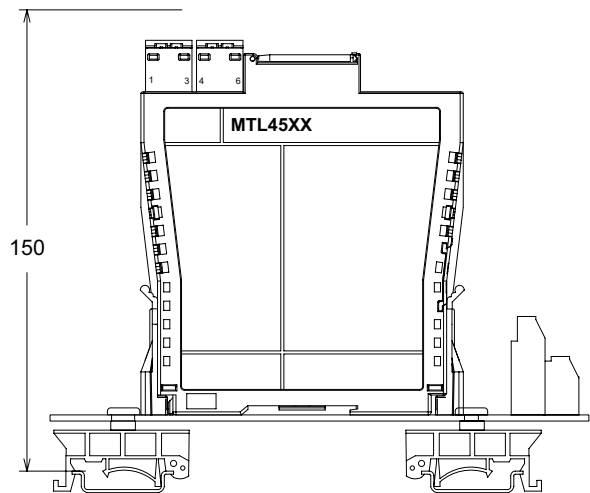
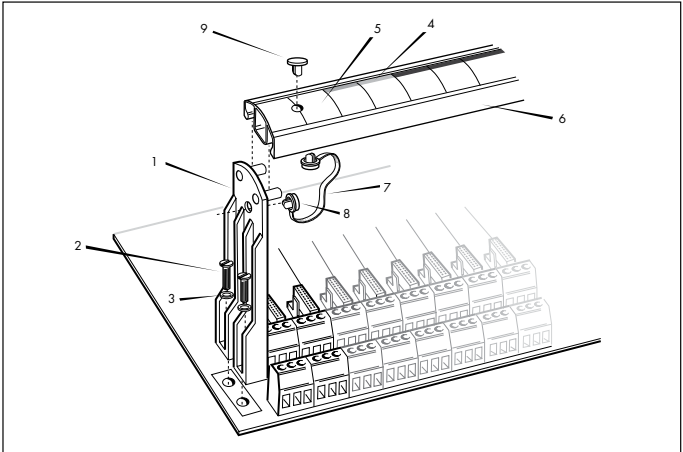

Figure 4.1: Standard backplanes with dimensions
Figure 4.6: Mounting a tagging-strip post
See Figure 4.1 for dimensions and mounting centres and Table 4.1 for a listing of the mounting options and the kits and accessories applicable to MTL standard backplanes.
Refer to Figures 4.1 and 4.2.
- Drill mounting surface at centres A (Figure 4.1) and tap, or fit retaining nuts if required.
See Figures 4.1 and 4.3.
- d) Insert the assemblies through the mounting holes A on the backplane (Figures 4.1 and 4.3).
See Figures 4.1, 4.6 and 4.7.
- a) Attach the tagging strip mounting posts (1) at backplane centres B (Figure 4.1) using two M3 x 12mm mounting screws (2) and washers (3) (Figure 4.6).
- b) Attach colour coding labels (4) to the tag label (5) (Figure 4.6). See Table 4.2 for suggested colour codes for individual modules.
- c) Mark the tag label (5) with the tag reference.
- d) Slide the tag label (5) into the plastic holder (6) and retain with a plastic rivet (9) (Figure 4.6).
- e) Attach the plastic retaining tie (7) with two plastic rivets (8) (Figure 4.6).
See Figures 4.1 and 4.8.
- Locate the earth rail mounting posts (1) at backplane centres C (Figures 4.1 and 4.8).
- Attach the mounting posts (1) with M3 x 12 screws (3) and washers (4).
- Slide the earth rail (5) through the slots in the of the mounting posts (1).
- Fit the earth terminal(s) (6) on the rail (5).
- Attach plastic retaining rivets (7) to each end of the earth rail (5).